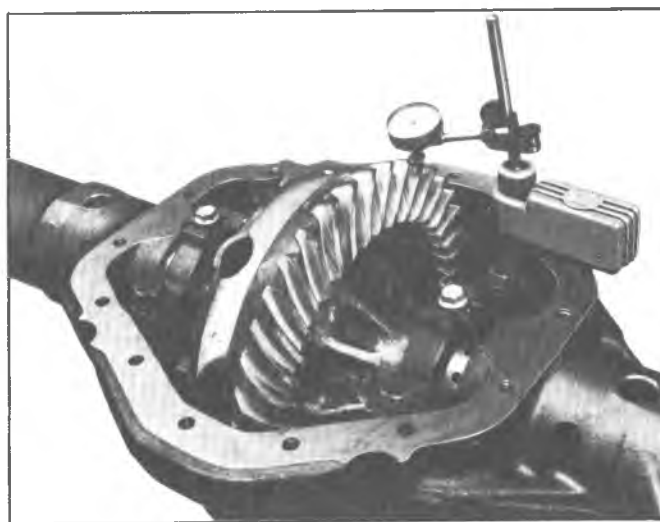

Fig. 6E—Measuring Backlash
9. Mount a dial indicator on the housing and measure the backlash between the ring gear and pinion. Backlash should be from .003" to .012" with .005" to .008" preferred. Refer to figure 6E.